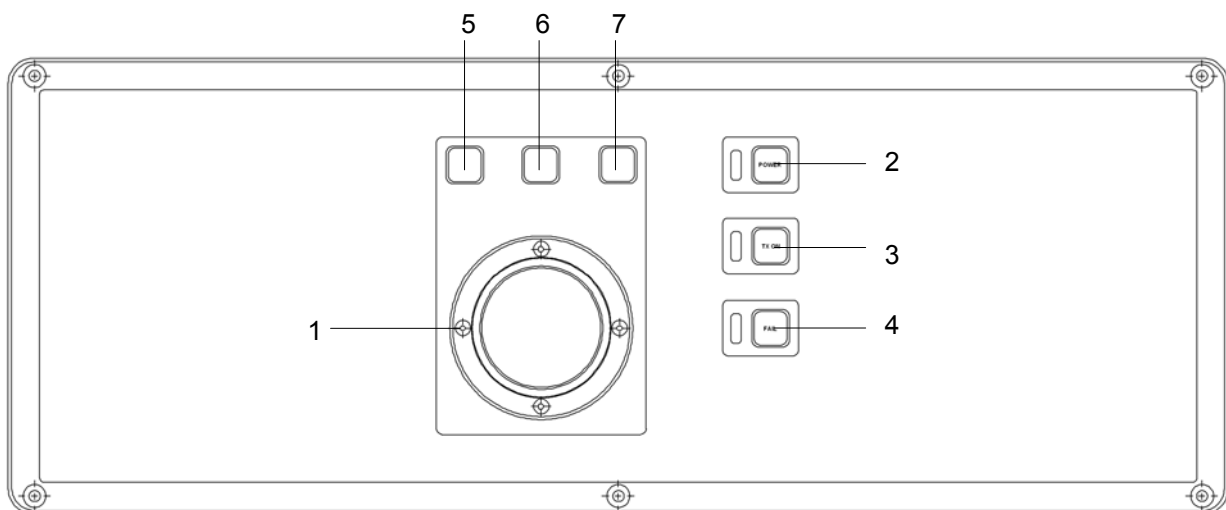

Figure 2.2.1 Standard key functions
Switching on the Main Power Switch placed on the Core unit, the system will boot and the “Standby” window will appear. Pushing the POWER ON button (Figure 2.2.1 pos. 2) the System will switch between “Standby” and “Sleep” mode. When the system is in Sleep mode it appears to be powered off, but the electronics are still on, waiting for the actual Power On mode request. In order to switch on the Monitor and the Keyboard, the operator has to press the POWER ON button, and holding it for more than 3 seconds. An audible beep will sound and the green LED next to the push-button will change to high brilliance.